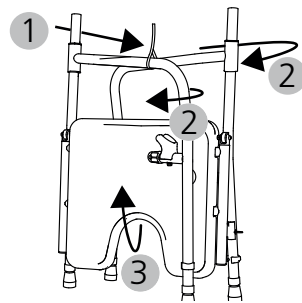

Abb. 3
1. Release the cable tie (Fig.3, 1).
2. Swing the side elements forward at the armrests (Fig.3, 2) and open them slightly outwards so that the seat can be folded upwards without any obstruction (Fig.3, 3).